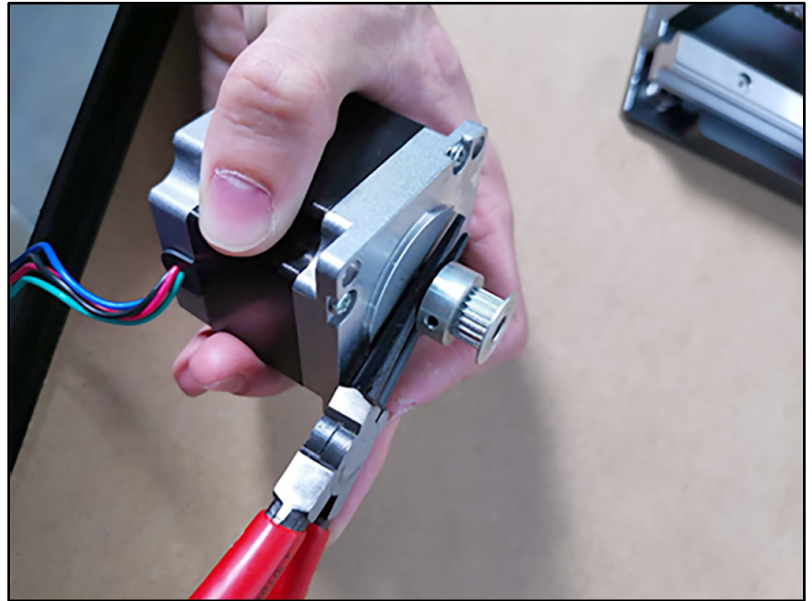

Figure 2
- b. The pulley may be hard to slide off. We recommend using a screwdriver, needle nose pliers, or the back of a claw hammer to lever the pulley off the Z-motor. See *Figure 2*.